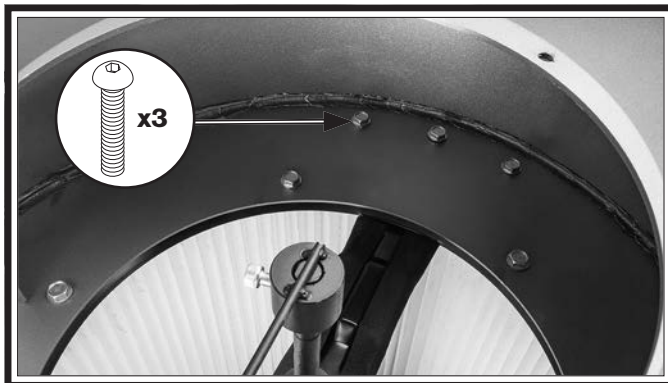

Figure 24. Flange bolts connecting housing assembly to rear panel.
29. Attach housing assembly to rear panel with (3) $\frac{5}{16}$ "-18 x $\frac{3}{4}$ " button head cap screws (see **Figure 24**).